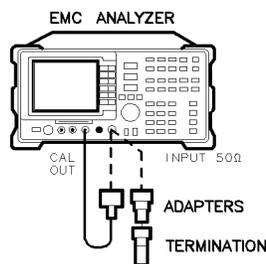

Figure 2-61. Displayed Average Noise Level Test Setup, HP 8591EM
1. Connect a cable from the CAL OUT to the INPUT 50 Ω of the EMC analyzer as shown in Figure 2-61.